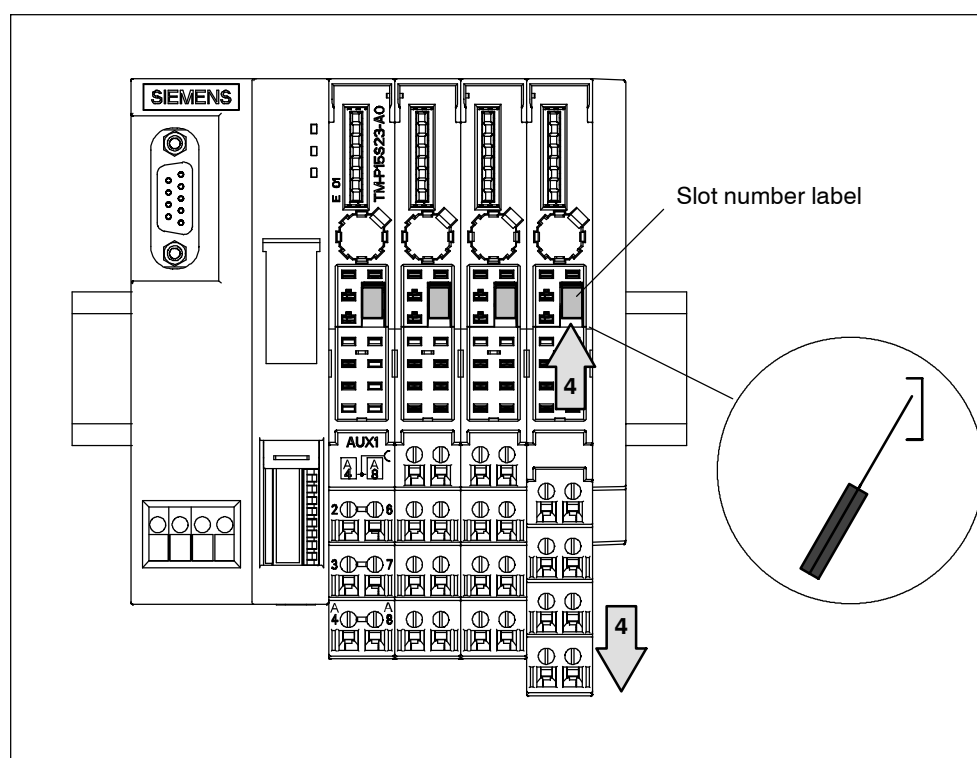

Figure 4-5 Replacing the terminal box on the terminal module
5. Replace the terminal box, and insert the new one into the terminal module from above (position: see Figure 4-5) Then push the terminal box upward until it snaps into place.